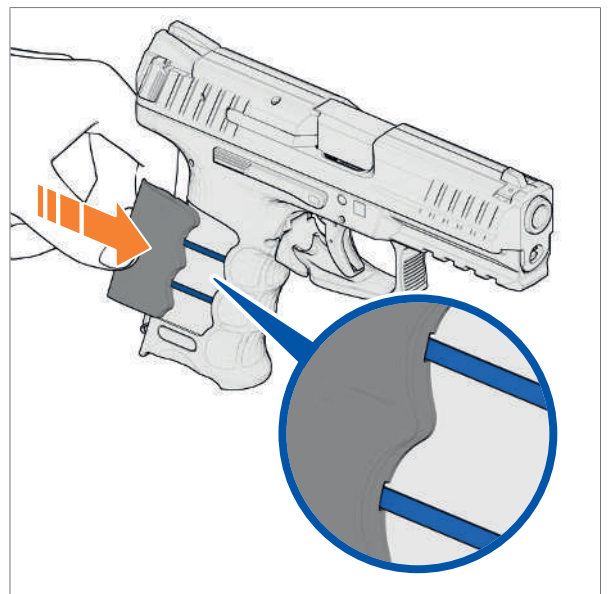

Fig. 26: Slide grip shells into guides
1. Slide grip shells into the plastic guides of the frame from rear to front (Fig. 26).